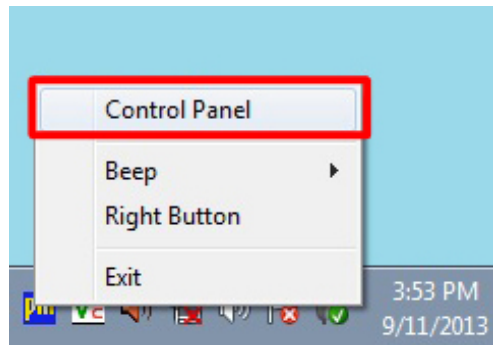

Figure 6-33: Select Control Panel
Step 2: Click **Control Panel** from the menu (Figure 6-33).